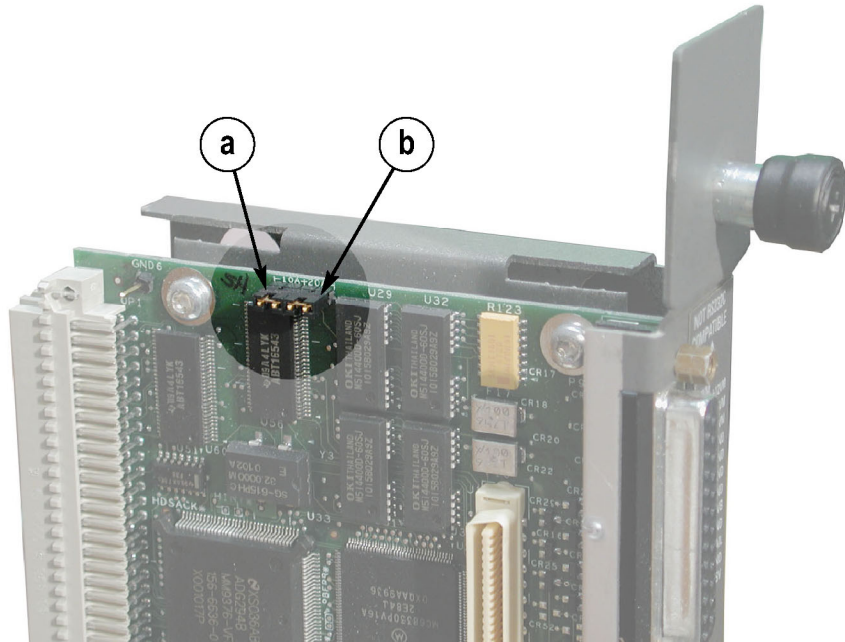

Figure 16: Set the fan jumpers on the Enhanced Monitor Card
5. Note the pair of jumpers at the top of the Enhanced Monitor Card. (See Figure 16.)